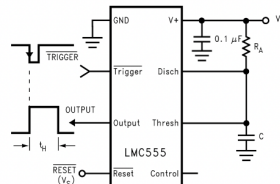

Figure 3. Monostable (One-Shot)
1. If you haven't a 555 timer, do some quick research to understand what it is. Wire up the 555 timer IC (datasheet) like in the Figure 3 below (but also include a pullup on the trigger pin and the Reset pin) for monostable operation:
In this mode of operation, the timer functions as a one-shot (Figure 3). The external capacitor is initially held discharged by internal circuitry. Upon application of a negative trigger pulse of less than $1/3 V_S$ to the Trigger terminal, the flip-flop is set which both releases the short circuit across the capacitor and drives the output high.
Basically, when the trigger pin goes low, the output will go high for a period of time $t=1.1 \cdot R \cdot C$ (read the text below Fig. 3) and we want a time of roughly 1-10 seconds so I think $R=100K$ and $C=10\mu F$ would work. If you want to observe the output, put an LED with resistor on the output pin and change the state of the trigger pin to trigger it.